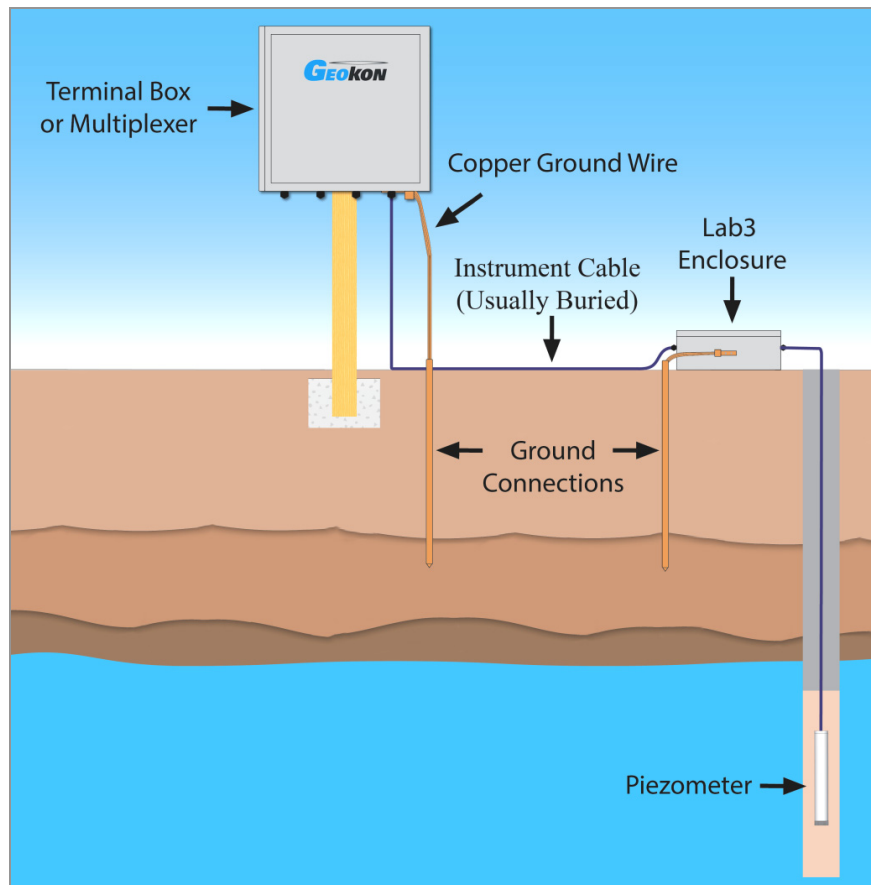

FIGURE 9: Recommended Lightning Protection Scheme
- Placing a Lightning Arrestor Board (LAB-3), in line with the cable, as close as possible to the installed piezometer (see Figure 9). These units utilize surge arrestors and transzorbs to further protect the piezometer. This is the recommended method of lightning protection.